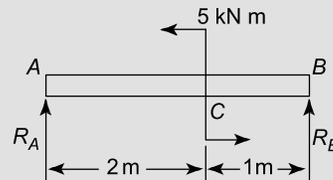

Figure 5.23
**Problem 12.** Determine the end reactions for the simply supported beam of Figure 5.23, which is subjected to an anti-clockwise couple of 5 kN m at the point  $C$ .